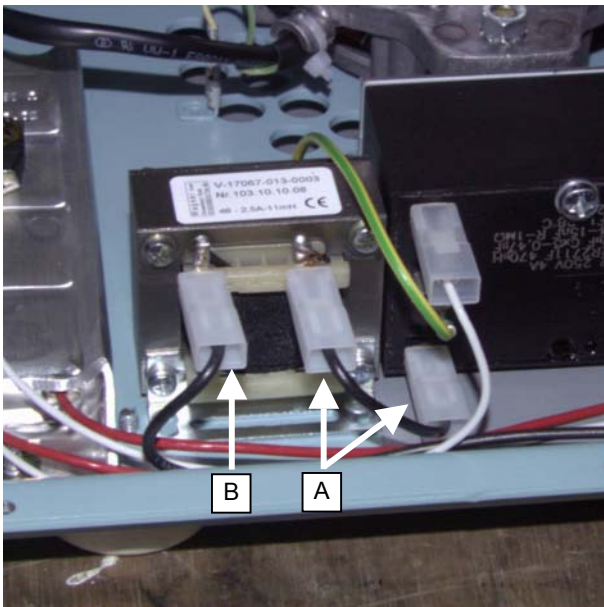
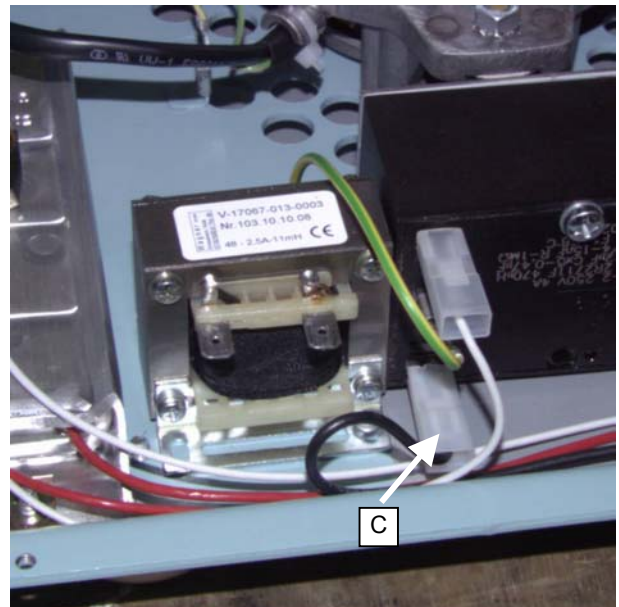

Figure 1
Figure 2
- Pull both plugs (A) and remove the cable, see Figure 1.
- Pull the plug (B) from the mains choke coil (see Figure 1) and plug it onto the free connector from the radio interference suppression filter (C), see Figure 2.